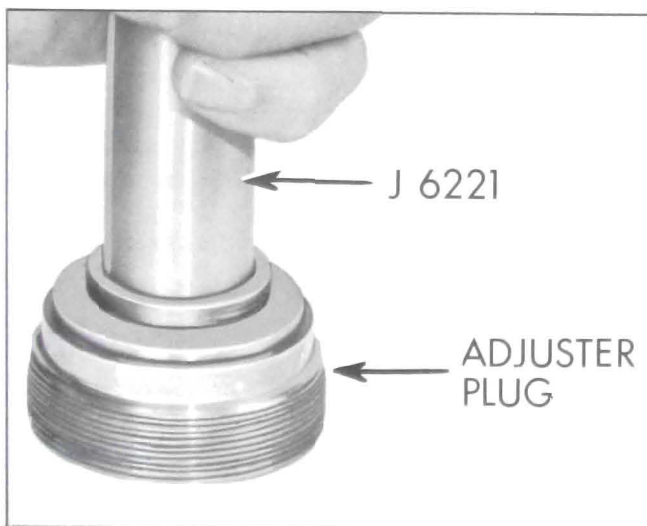

Figure 8-33—Removing Needle Bearing
4. Inspect needle bearing in adjuster plug and if rollers are broken or pitted, remove needle bearing by pressing from thrust bearing end using Tool J-6221 and discard bearing. See Figure 8-33.